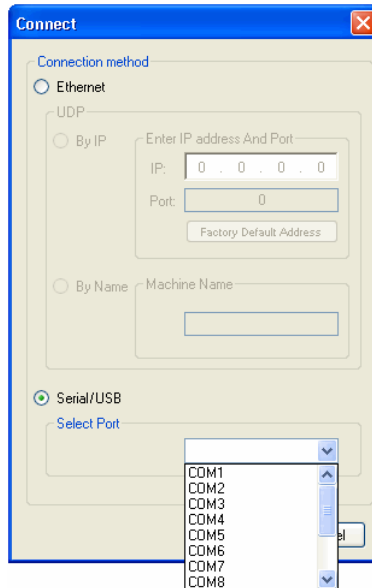

Figure 4: Connect Serial/USB
3. To upgrade using an RS-232 or USB connection, click **Serial/USB** (see Figure 4).
3. Click the **Connect** button to open the *Connect* window (see Figure 4).